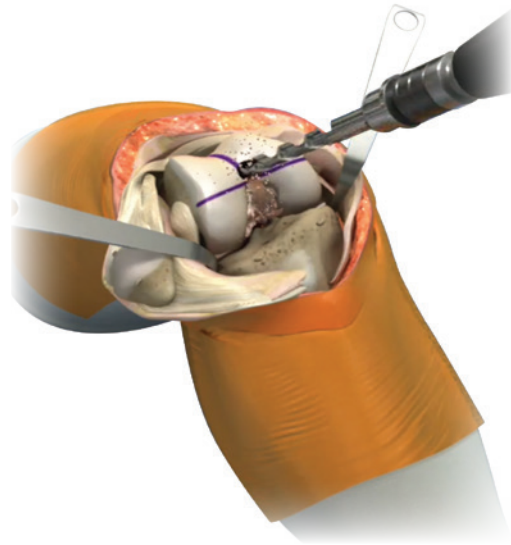

Figure 1
1. Open the femoral canal with the 9.5mm Intramedullary Drill. The drill has a 12mm step to open the entry point further (Figure 1).